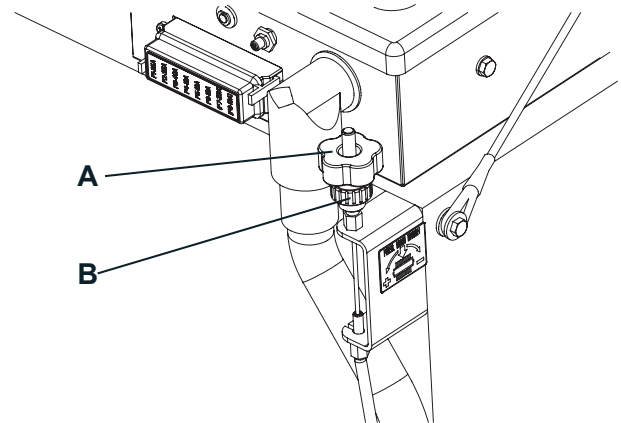

Figure 3
2. Engage the parking brake with the pedal (3) and the lever (4).
3. Turn the ignition key (72) to "0".
4. Open the hood (7).
5. Loosen the knob (A, Fig. 3) on the left side of the machine.
6. Turn the knob (B, Fig. 3) and remind that: